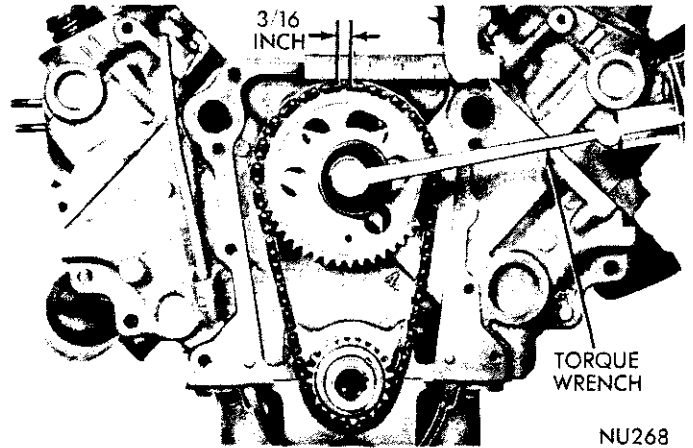

Fig. 22—Measuring Timing Chain Stretch
- (1) Place a scale next to timing chain so that any movement of chain may be measured.
- (2) Place a torque wrench and socket over camshaft sprocket attaching bolt and apply torque in direction of crankshaft rotation to take up slack; 30 foot-pounds (with cylinder head installed) or 15 foot-pounds (cylinder heads removed). With a torque applied to the camshaft sprocket bolt, crankshaft should not be permitted to move. It may be necessary to block crankshaft to prevent rotation.
- (3) Holding a scale with dimensional reading even with edge of a chain link, apply torque in the reverse direction 30 foot-pounds (with cylinder heads installed) or 15 foot-pounds (cylinder heads removed) and note amount of chain movement (Fig. 22).
- (4) Install a new timing chain, if its movement exceeds $\frac{3}{16}$ inch.
- (5) If chain is satisfactory, slide the crankshaft oil slinger over shaft and up against sprocket (flange away from sprocket).